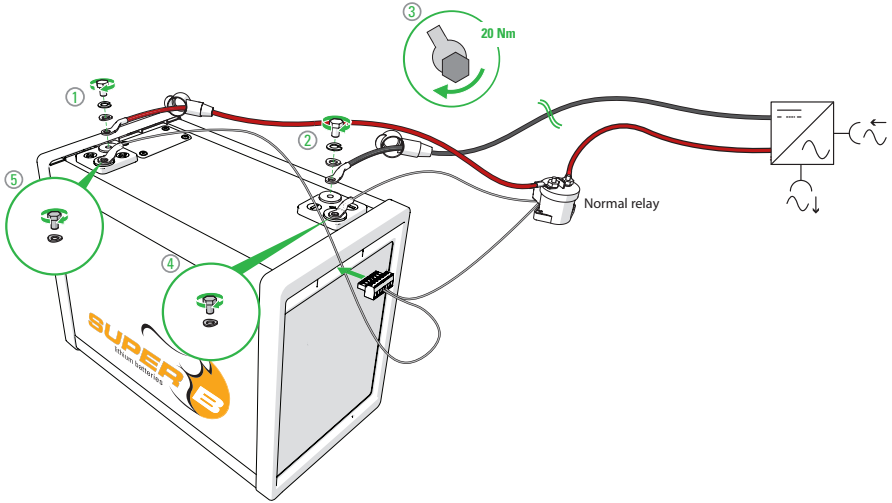

Figure 11. Connecting the battery to the load.
2. Connect the terminal of the battery to the terminal of the relay (see figure 11):